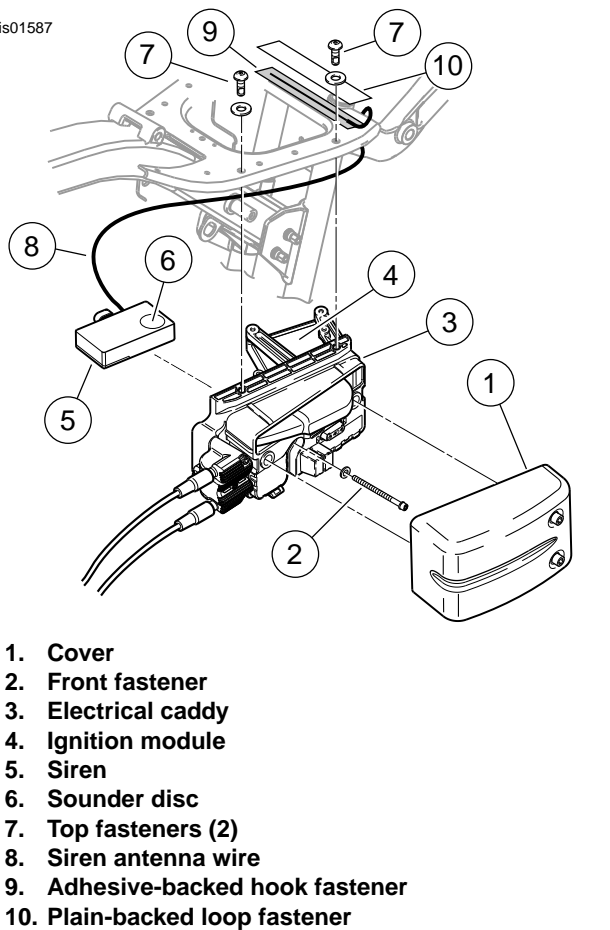

Figure 24. Install Siren in Electrical Caddy (Dyna Models)
1. See Figure 24. Firmly grasp both sides of the electrical caddy cover (1). Pull out to remove.
2. Remove the front electrical caddy screw and washer (2). Remove the two top electrical caddy screws and washers (7).